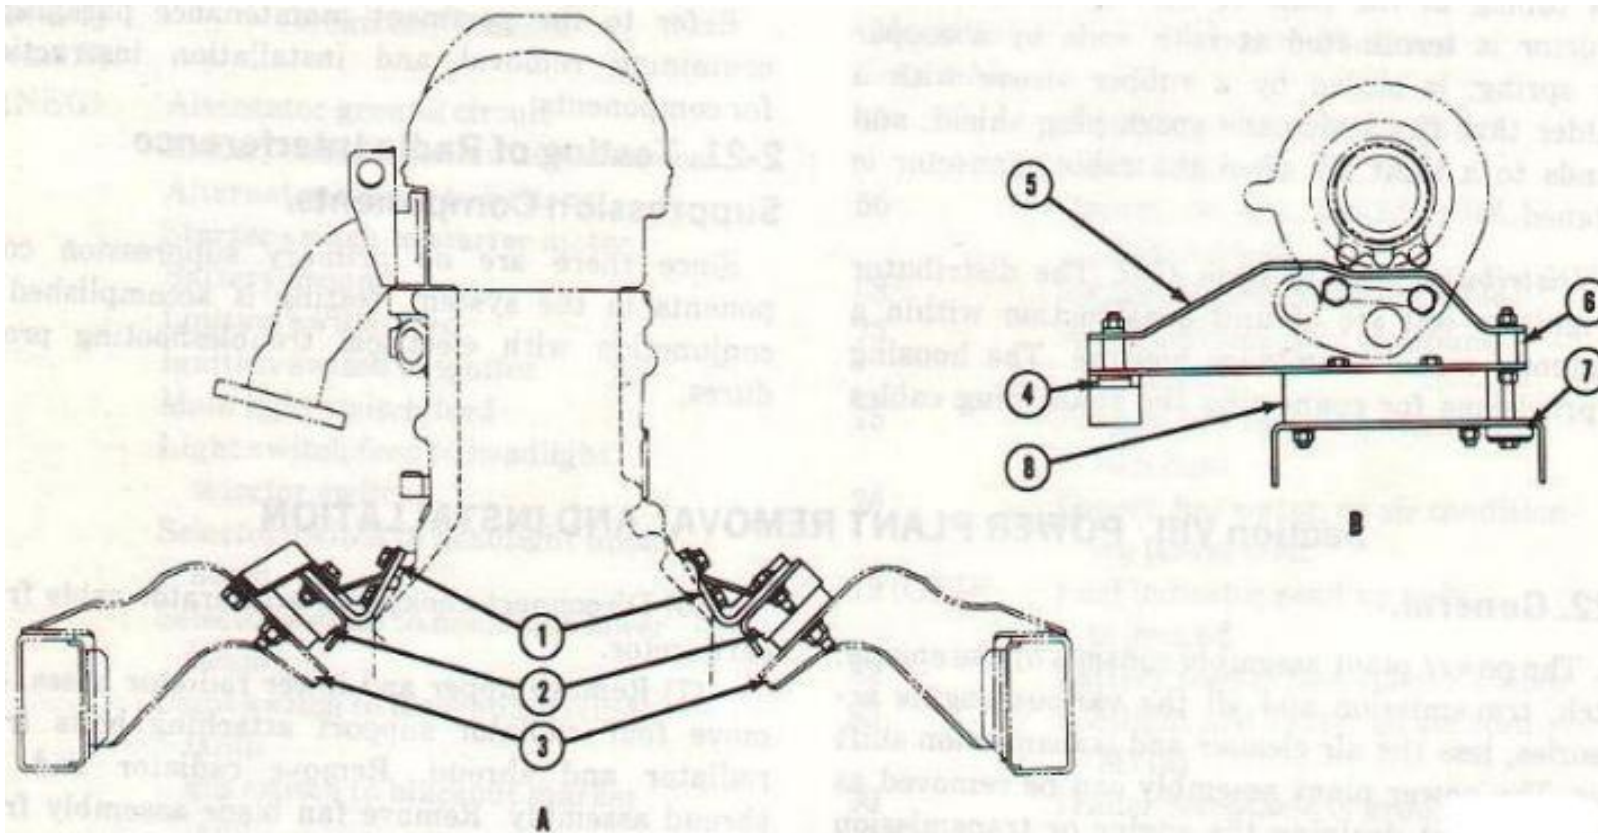

Figure 2-4. Engine supports.
- (11) Disconnect engine ground cables.
- (12) Disconnect cables from carburetor.
- (13) Disconnect exhaust pipe at manifold outlet, also at bracket attaching flywheel housing.
- (14) Disconnect clutch linkage at clutch housing.
- (15) Remove clutch cross shaft. Remove bolts attaching bracket-to-flywheel housing.
- (16) Disconnect power take-off propeller shaft, and propeller shaft from transmission to transfer case. Tie shafts up out of the working area.
- (17) Disconnect transmission vent line from transmission tower cover.
- (18) Disconnect power take-off control from power take-off.
- (19) Loosen transmission shift lever jam nut. Remove shift lever and jam nut. Remove transfer case hand levers and parking brake handle from bracket mounted on the right side of transmission case.
- (20) Attach lifting sling and take up load from engine mounting cushions.
- (21) Remove torque reaction arm insulator (4 fig 2-4) support-to-torque reaction support arm bracket attaching nuts, lock washers and bolts. Remove nuts securing rear insulator assembly (8 fig 2-4) to rear crossmember.
- (22) Remove front engine mount attaching nuts,
- (23) Tilt power plant as required and carefully use hoist to remove it from the vehicle.
b. Engine Rear Insulator Assembly. The engine rear insulator assembly (8 fig 2-4) normally is removed during power plant removal, however, it can also be removed separately from the power plant using the following procedure.
(1) Place a jack or other suitable lifting device under the engine assembly.
(2) Remove nuts, bolts, and washers attaching rear insulator assembly (8 fig 2-4) to torque reaction support arm (5 fig 2-4). Remove nuts securing rear insulator assembly (8 fig 2-4) to rear crossmember.
(3) Jack up engine about 1-inch and remove rear insulator assembly.
c. Engine Front Rubber Insulators. The engine front rubber insulators (2 fig 2-4) normally are removed during power plant removal, however, they can also be removed separately from the power plant using the following procedure.
- (1) Remove nuts and washers from engine front rubber insulator (2 fig 2-4) attaching bolts.
- (2) Remove attaching bolt nuts, washers and bolts from frame side rail brackets (3 fig 2-4).
lock washers and bolts. Raise engine slightly and remove front rubber insulators (2 fig 2-4) and rear insulator assembly (8 fig 2-4).
- (3) Jack up engine about 1-inch and remove front rubber insulators (2 fig 2-4).
- (1) Attach the engine lifting sling and carefully position the power plant in the vehicle.
- (2) Check and tighten the engine rear support crossmember-to-frame side rail attaching bolts.
- (3) Position the front and rear engine rubber insulators (2, 8, fig 2-4) attaching bolts and tighten. Install front bolts, washers and nuts. Tighten nuts.
- (4) Remove lifting sling from engine lifting eyes.
- (5) Install radiator and fan shroud on radiator body support and secure with four bolts and washers.
- (6) Install propeller shaft from transfer case to transmission.
- (7) Install power take-off propeller shaft and connect power take-off controls.
- (8) Connect transmission vent line to transmission tower cover.